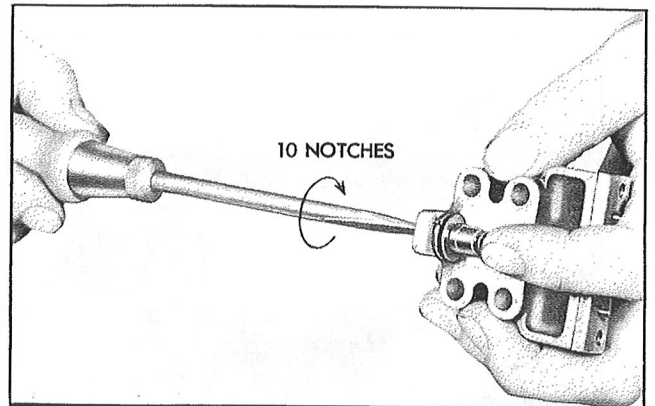

Figure 202—Adjustment of the Governor Screw
Step 2.—Using a screwdriver or fingers, turn the governor spring adjusting screw counterclockwise ten notches and again set the locking notches over the pins. See Figure 202.